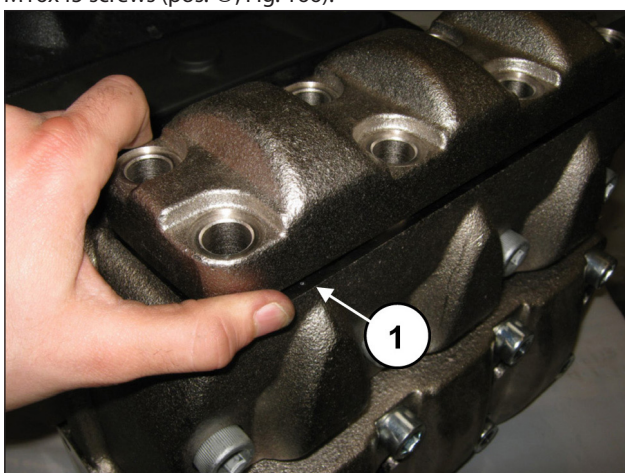
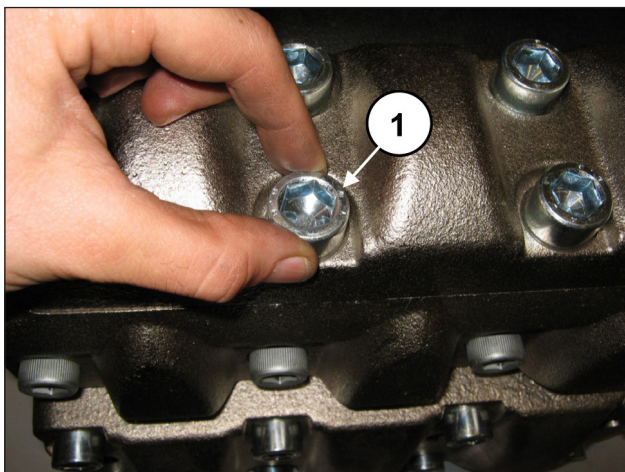

Fig. 165
Fig. 166
After having completed the assembly of the outlet valve units, fit the outlet valve cover (pos. ①, Fig. 165) and screw in the 8 M16x45 screws (pos. ①, Fig. 166).